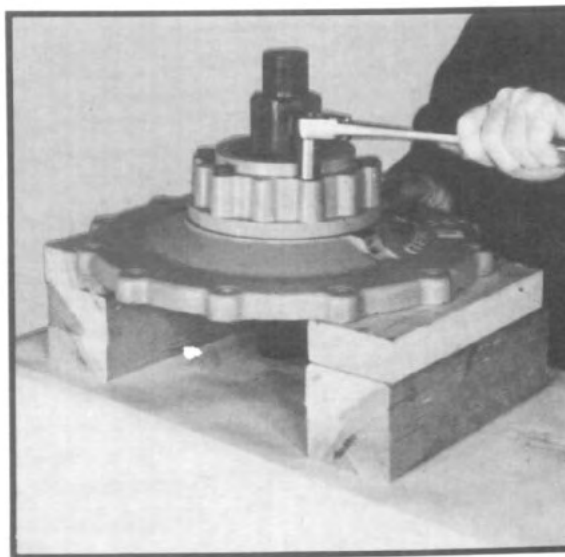

Fig. 132
2.24 Assemble seal carrier and gasket to differential carrier cap using the six capscrews. Be sure to align oil passages. Tighten capscrews to correct torque. (See fig. 132.)